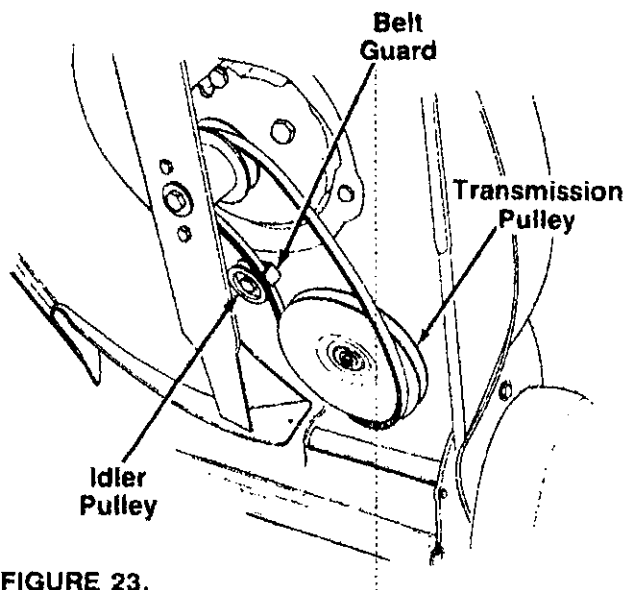

FIGURE 23.
5. Roll the belt off the transmission pulley. Remove the belt from between the idler pulley and belt guard. See figure 23.